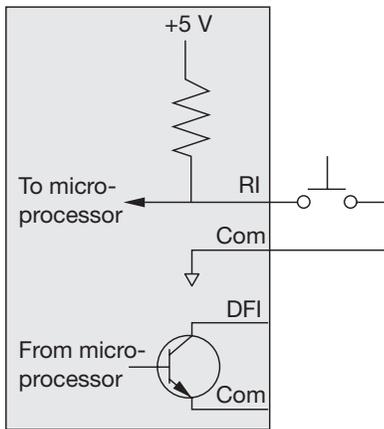

Figure 3. Remote inhibit and discrete fault indicator schematic
Remote inhibit (RI) is an input to the power supply that disables the output when the RI terminal is pulled low (Figure 3). Shorting the normally open switch turns off the supply's output. You could also use a logic chip with an open collector transistor output instead of the switch. Figure 3 also shows a discrete fault indicator (DFI) that you can use to signal an operator or other components in the system when the power supply detects a user-defined fault.